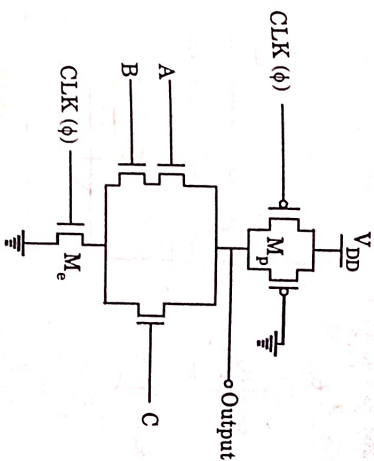

Fig. 3.7.3. Addition of level restoring transistor.
- One way of alleviating the problem of charge sharing is to add a small pMOS transistor in parallel with the precharge transistor as shown in Fig. 3.7.3 to supply the extra current needed.